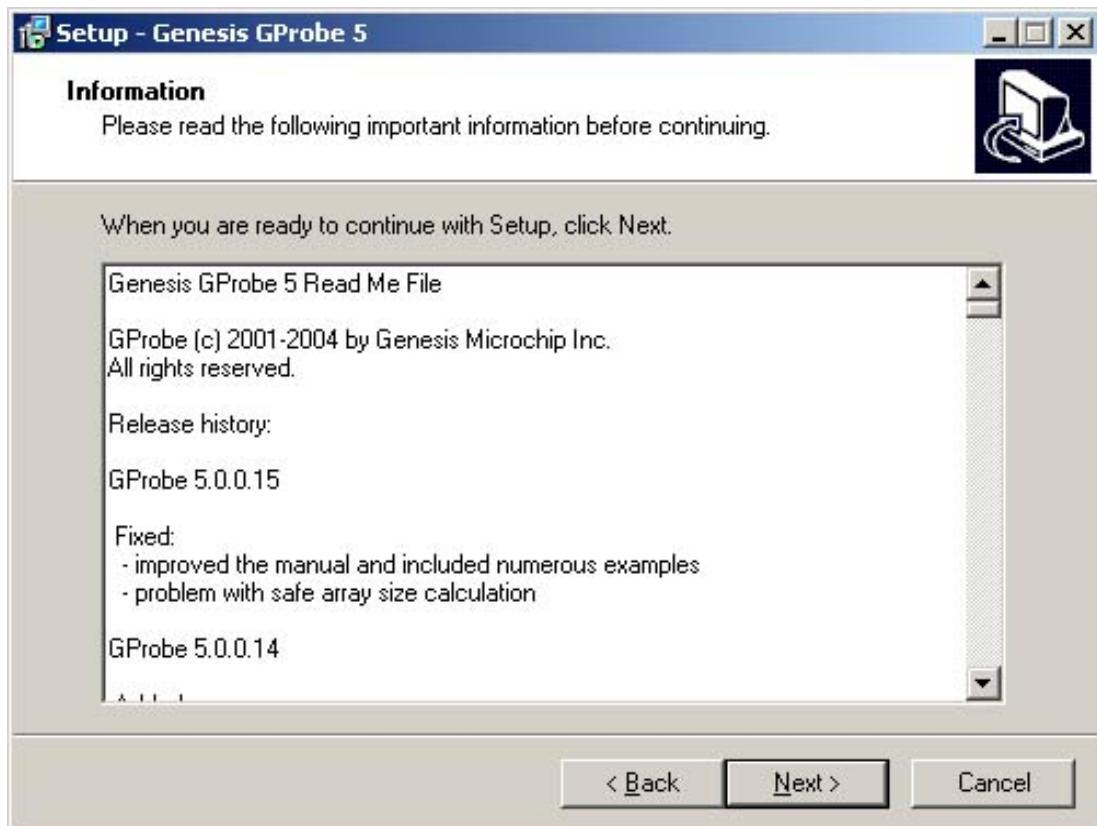

Fig. 0.3
0.3 Check the "I accept the agreement" then press "Next", see Fig. 0.3